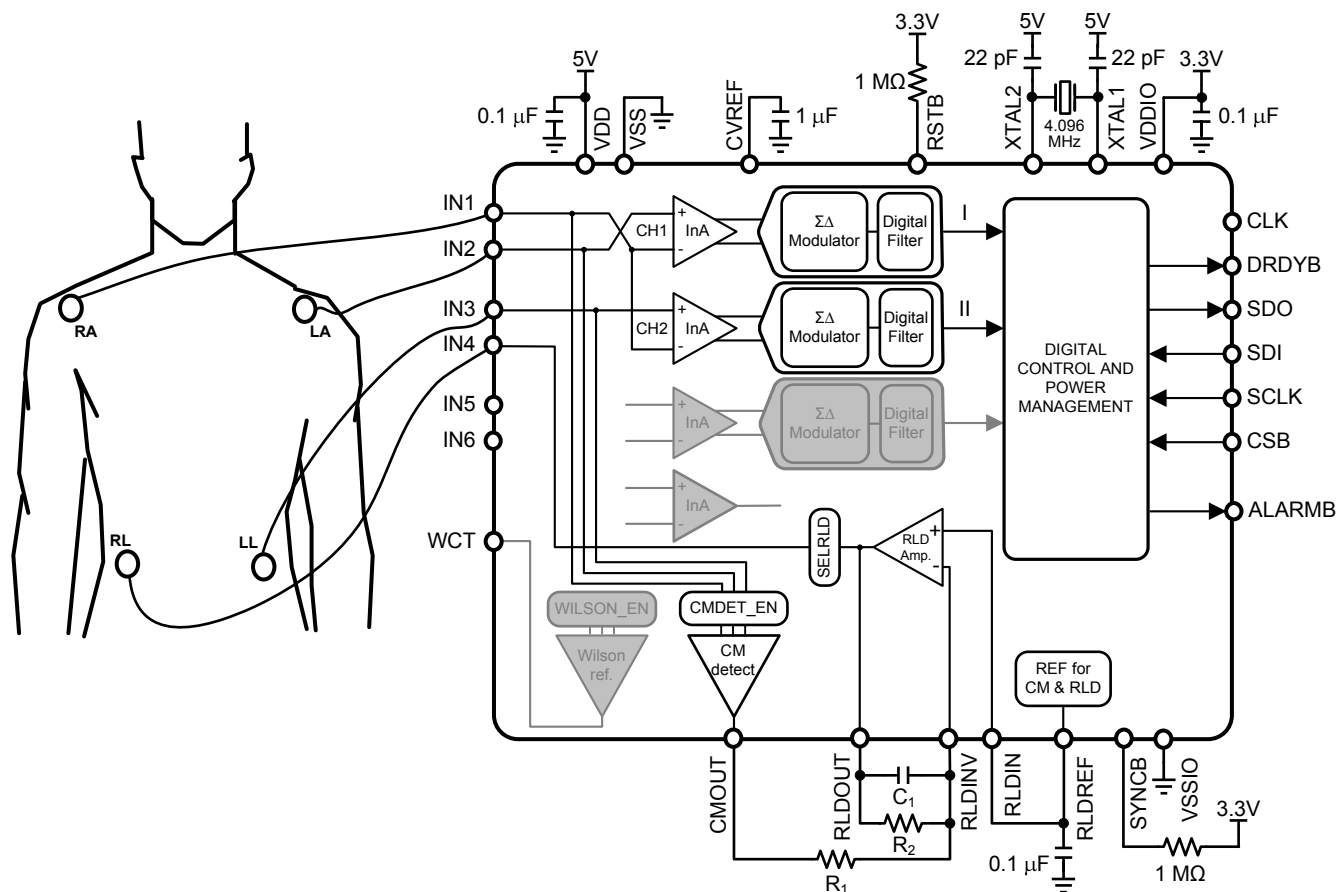

Figure 32. 3-Lead ECG Application
A 3-Lead ECG system can be implemented using two channels as shown in Figure 32. In this example, the right arm (RA), left arm (LA), left leg (LL) and right leg (RL) are connected to the IN1, IN2, IN3 and IN4 pins respectively. The ADS1293 uses the Common-Mode Detector block to measure the common-mode of the patient's body by averaging the voltage of input pins IN1, IN2 and IN3, and uses this signal in the right leg drive feedback circuit ⁽¹⁾. The output of the RLD amplifier is connected internally to the IN4 pin, which is connected to the right leg electrode, to drive the common-mode of the patient's body. The chip uses an external 4.096MHz crystal oscillator connected between the XTAL1 and XTAL2 pins to create the clock sources for the device.